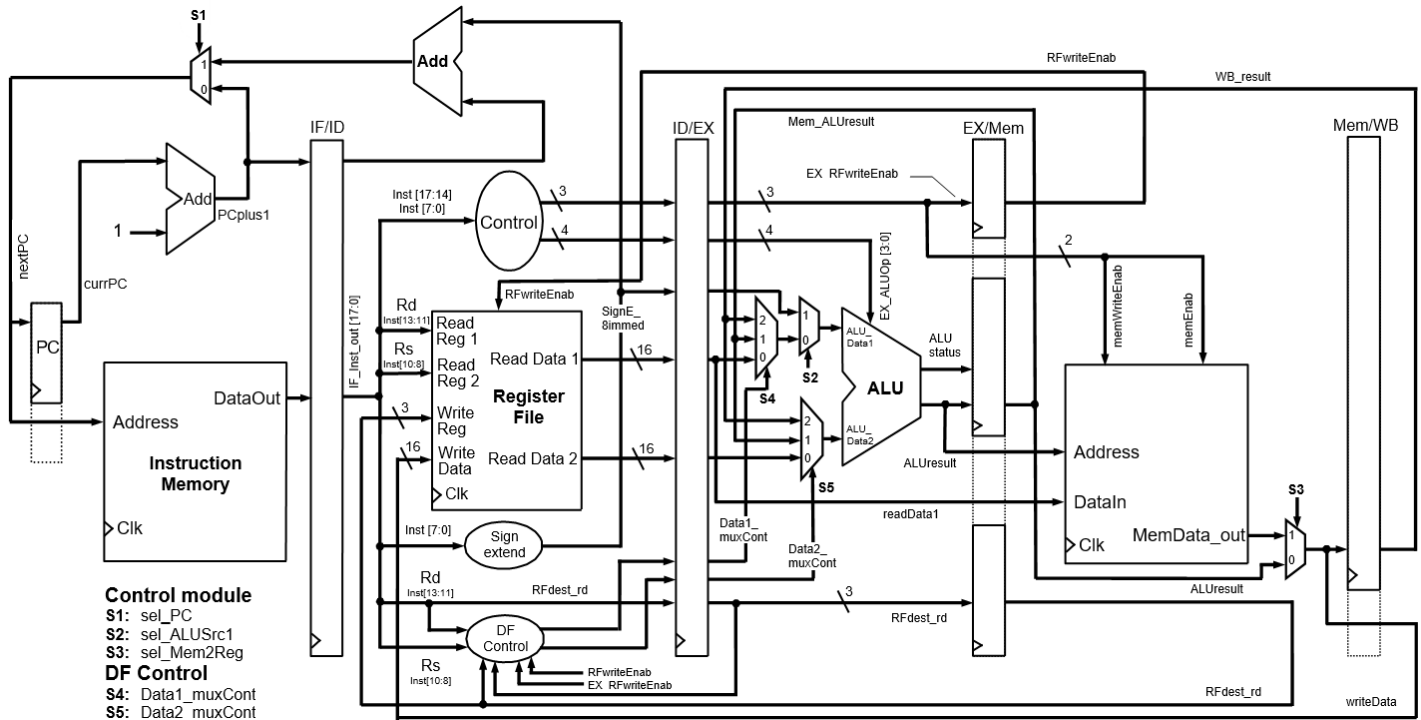

Figure 1: uP16 Block Diagram with data forwarding
You should look through the Module 8: uP Case Study lecture notes relating to data forwarding. You may also wish to examine Figure 1 (Data forwarding Datapath) and review the Lab5 uP16 source code to see what differs from that of Lab4.
3. Add *uP16_top_tb.v* (as a simulation source) from SC2103_Lab5.zip and then run a **post synthesis timing simulation** (select "Run Simulation" and then select "Post-Synthesis Timing Simulation"). Then add the register file (RF) to your simulation. Select uut -> T3 -> EX_1, then in the objects window find *\RegFile_reg[0] [15:0]* (sometimes RF0 may be missing as it is always zero and may be optimised away by the synthesiser. If so, move on to RF1). If RF0 is present, it should have a value of 0000 and is an array data type. Drag it to the simulation window. Then find *\RegFile_reg[1] [15:0]* through *\RegFile_reg[7] [15:0]* and drag each of them to the simulation window. Make sure that they all have a multi-bit array data type, otherwise you have probably got the wrong signals. Then maximise the waveform window. Ensure the run time is set to 1us. Restart and Re-run (till 1us). You may need to do this a couple of times before all waveforms are correctly populated. Adjust the waveform so that it displays from 100ns to 400ns. You may need to "float" the window, by selecting the small square beside the cross (close) button at the top right of the waveform window.
5. Examine the uP16 Block Diagram (Figure 1). Note that it has an extra control module in the ID
6. Open *ID_stage.v* and examine the *DF_control* module. Note that it has a port list, but none of the inputs are used (which explains some of the unconnected port warning messages in Task 1.2). The two outputs (*Data1_muxCont* and *Data2_muxCont*) are both set to zero. This means that data forwarding is disabled, and the processor pipeline behaves just like the version of uP16 shown in Figure 1 of Lab4.